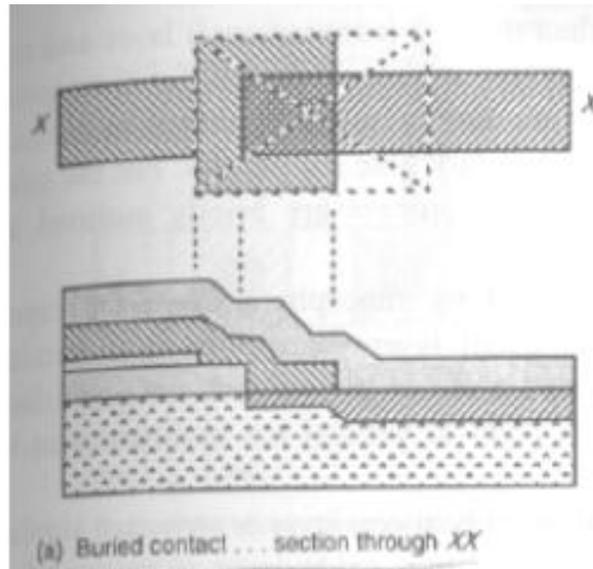

Figure 14: Buried contact.
**Buried contact:** The contact cut is made down each layer to be joined and it is shown in figure 14.